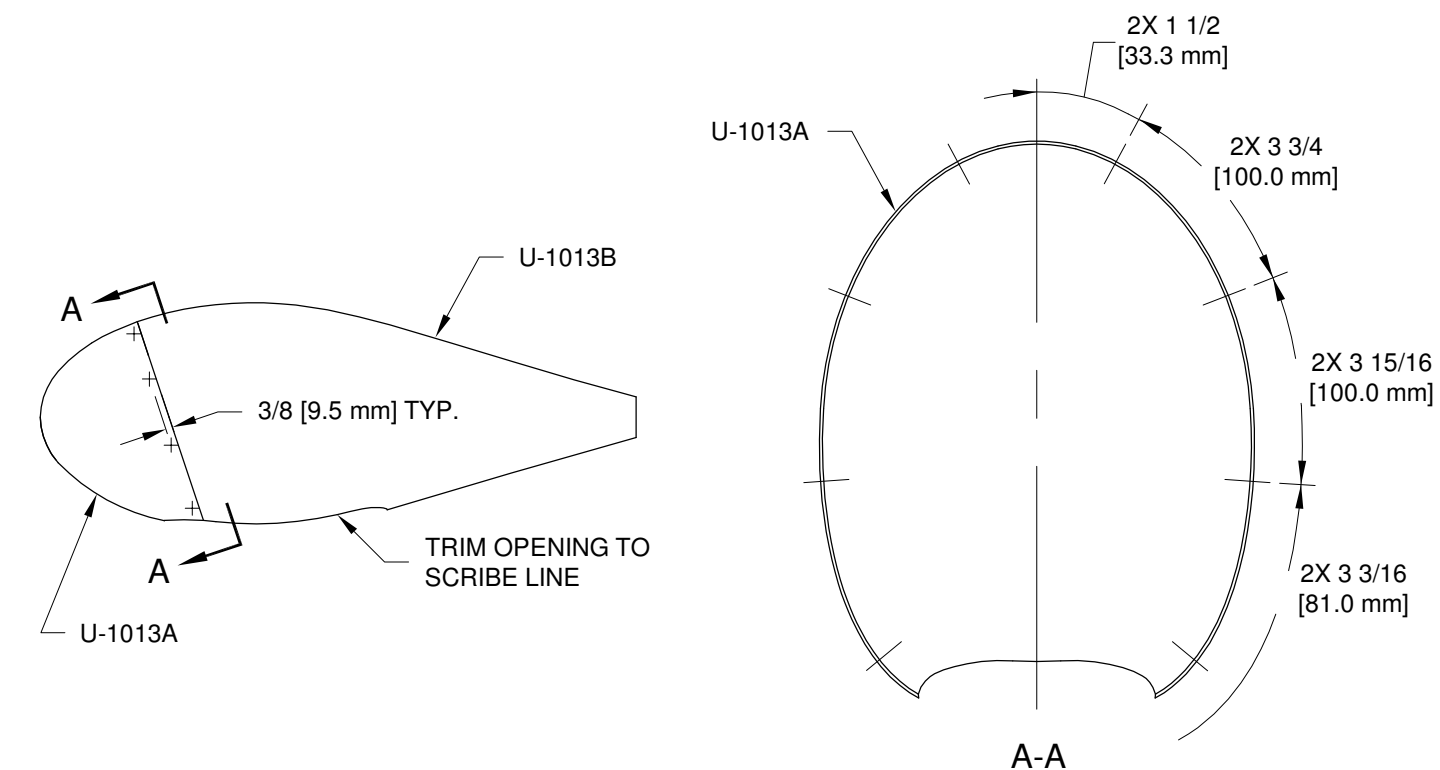

FIGURE 1: MARKING FAIRINGS
Step 1: Mark the screw locations that will join the U-1013A Wheel Fairing Front and the U-1013B Wheel Fairing Rear as per the dimensions shown in Figure 1 and Section A-A.
Step 2: Rough trim the wheel hole opening in the wheel fairing rear to the scribe lines as noted in Figure 1. The opening will be finished after fitting to the Nose Wheel Assembly.